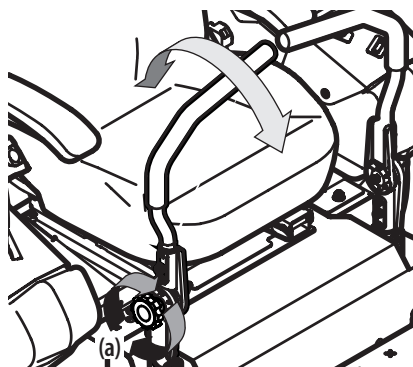

Figure 2-6
1. Loosen the control lever knob (a) to unlock the drive control levers. See Figure 2-6.